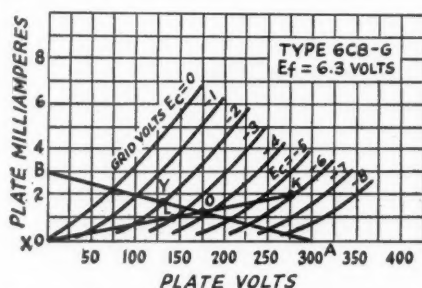

Fig. 2—Average plate characteristics for each triode unit of type 6C8G.
1) Construct the correct load line on the characteristic curve as shown in Fig. 2. Since the values of the plate and cathode resistors are known, the total plate resistance is